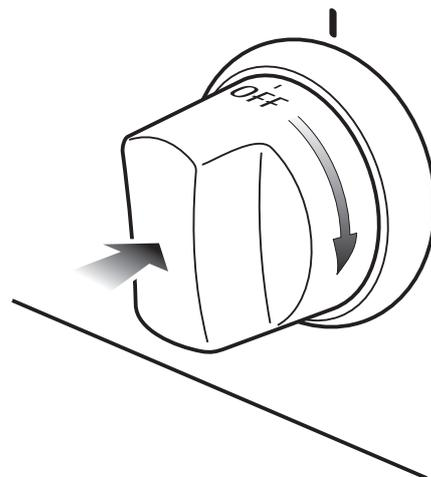

Fig. 3.4
2. Press the oven control knob right down and, keeping it pressed, turn clockwise (fig. 3.4) to the “BROIL” position.